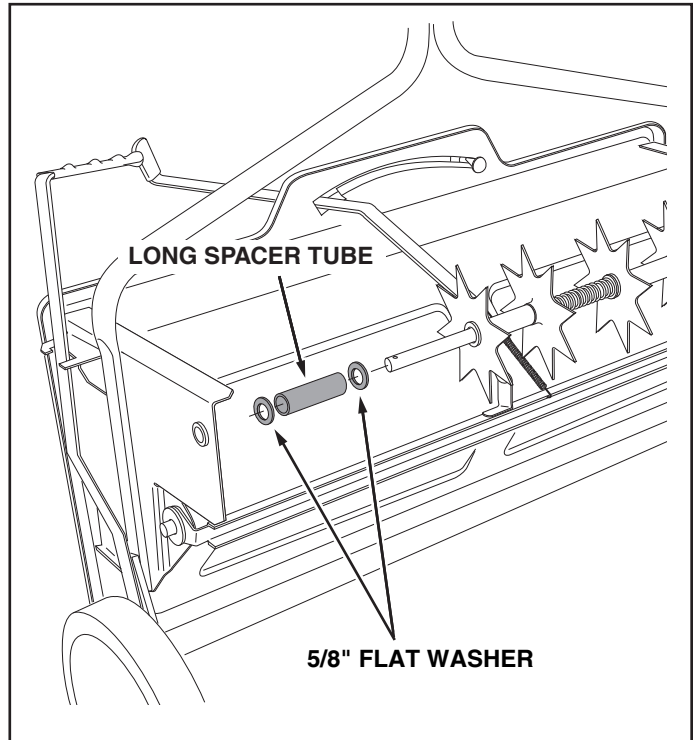

FIGURE 18
- Place two 5/8" flat washers separated by a long spacer tube onto the shaft. See figure 18.